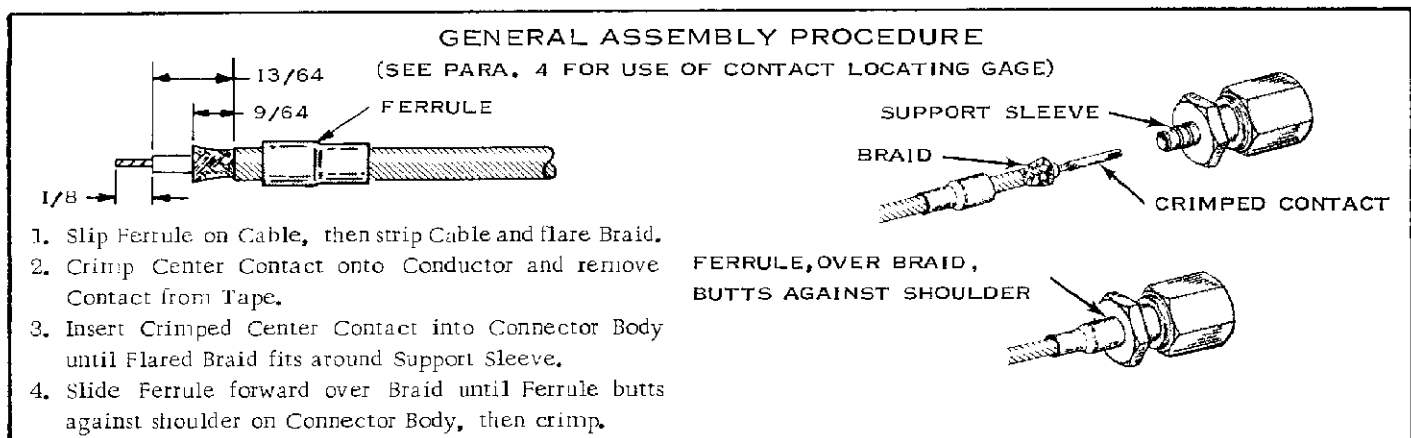

FIG. 2
- Prepare Cable as shown in Figure 2.
- Assemble Connector Body and Ferrule as described in steps 3 and 4 of Figure 2.
- (a) Assemble Connector Body and Ferrule as described in steps 3 and 4 of Figure 2.
- (b) Prepare cable as shown in Figure 2.